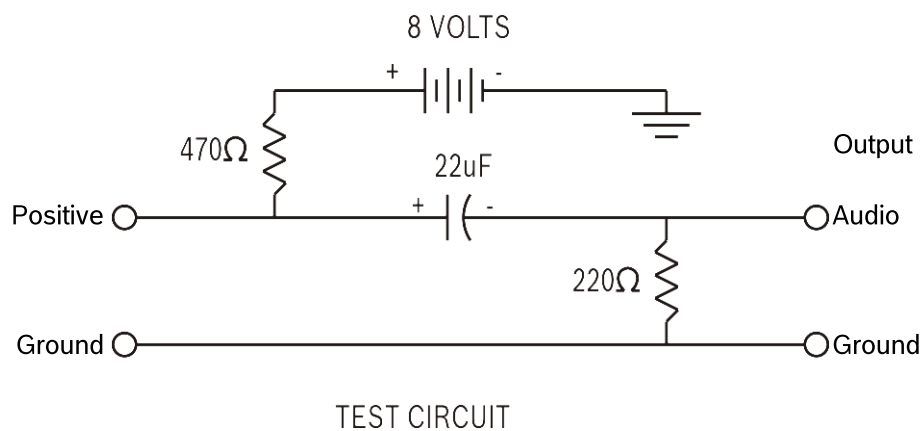

Figure 3.5: Test Circuit
1. Using the test circuit shown in figure 3.5, insert the multi-meter in series with the power supply positive lead. (A connection to the audio output of the circuit is not needed.)
Power requirements	See test circuit in figure 3.5 (per RTCA/DO-214A)